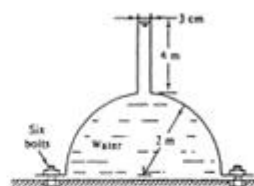

Fig. P2.91
2.91 The hemispherical dome in Fig. P2.91 weighs 30 kN and is filled with water and attached to the floor by six equally-spaced bolts. What is the force in each bolt required to hold the dome down?